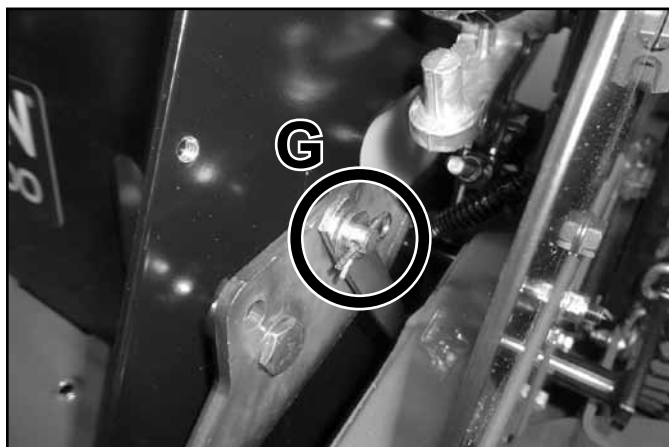

Fig. 030
5. Install the parking brake linkage, washer and pin, and (G) (Fig. 030).